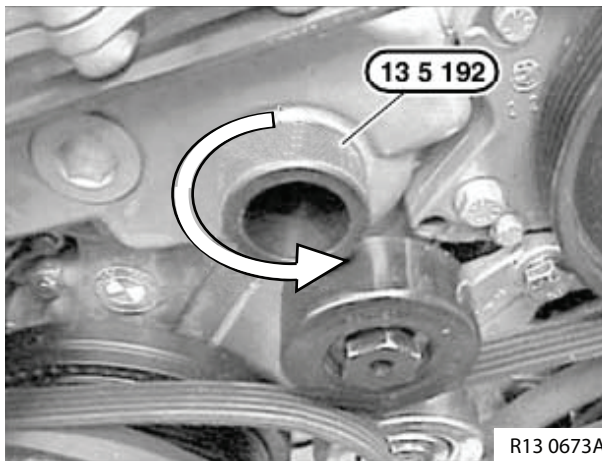

Figure 6-32
- Remove special tool OEM No. 13 5 192 from timing case cover (**Figure 6-32**).